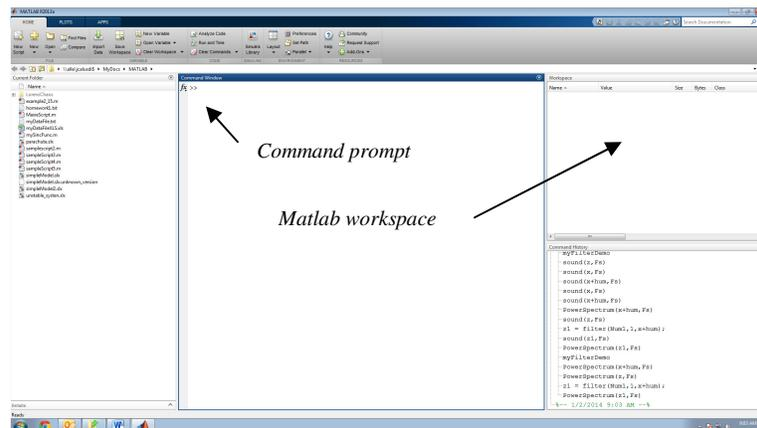

Figure 1. Matlab Main Window
2.1.1 Start Matlab. The computers in the controls lab will have the Matlab utility available from a Desktop folder named "SERVO LAB APPS." Double click the Matlab icon on the desktop. It will take a minute or two for Matlab to finish initializing. The Matlab window should appear as shown in Figure 1. Note: Setup may differ depending on MATLAB version you are using.